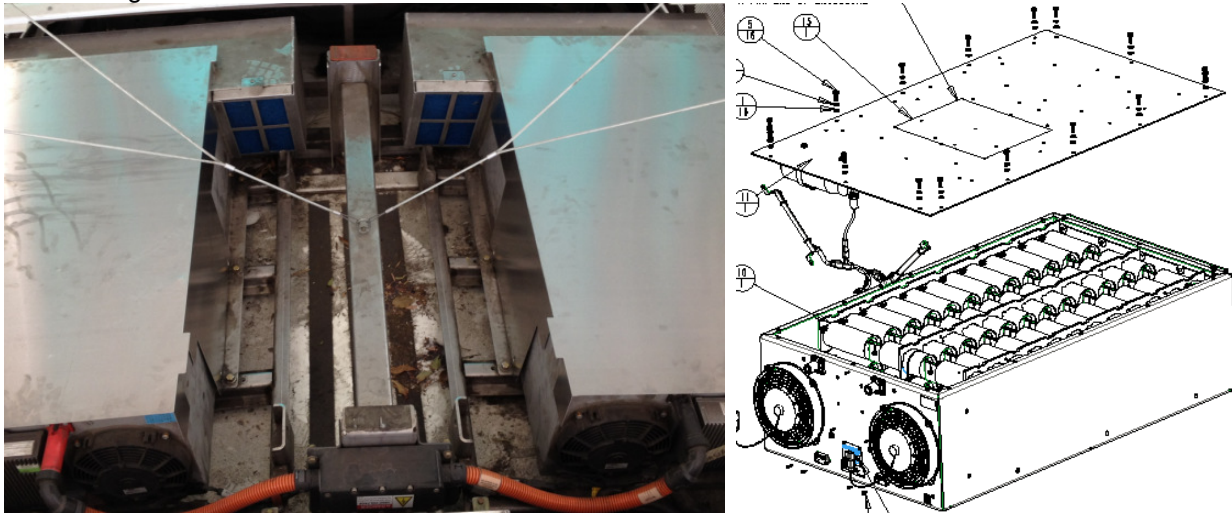

Fig 2 – UCAP Cabinet Cover
- b. On both UCAPS remove cabinet cover and all existing perimeter hardware (16x screws, washers, and lock washers per UCAP) securing the UCAP cabinet covers to UCAP boxes and discard hardware. See Fig 2.